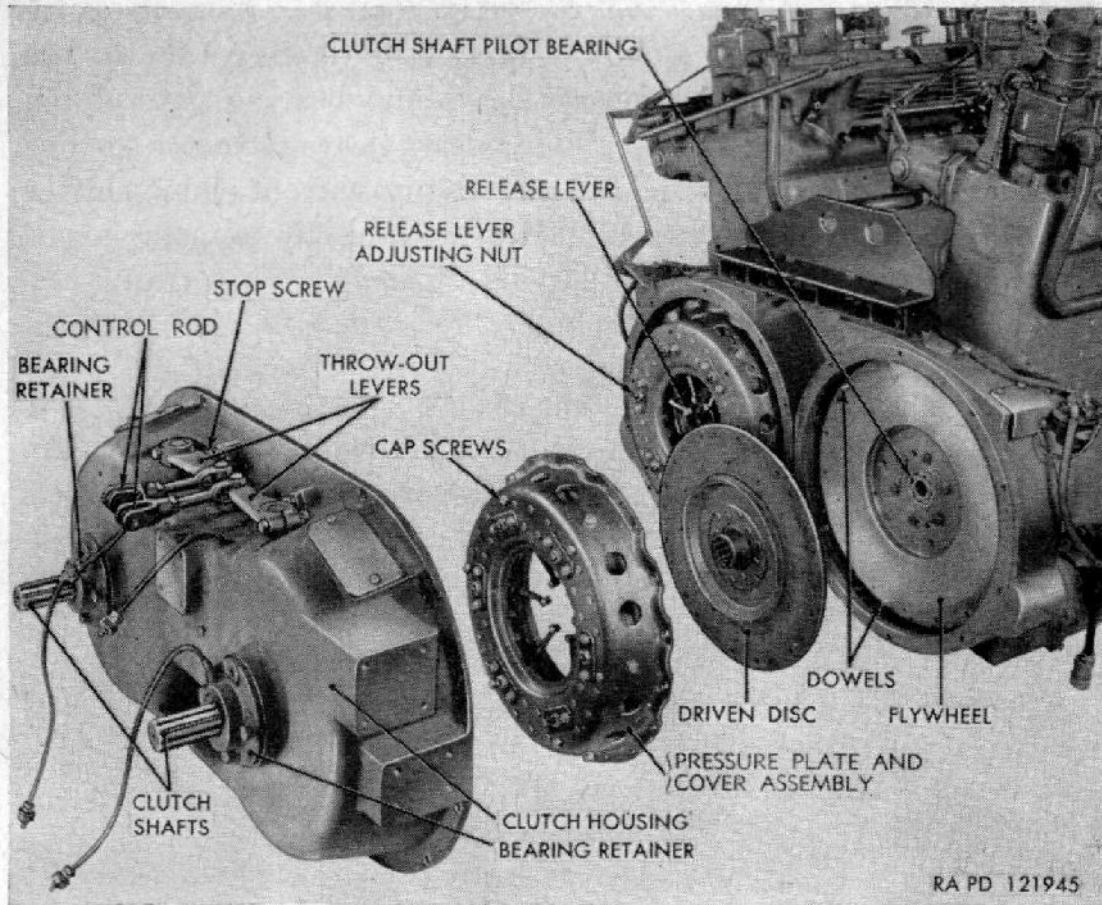
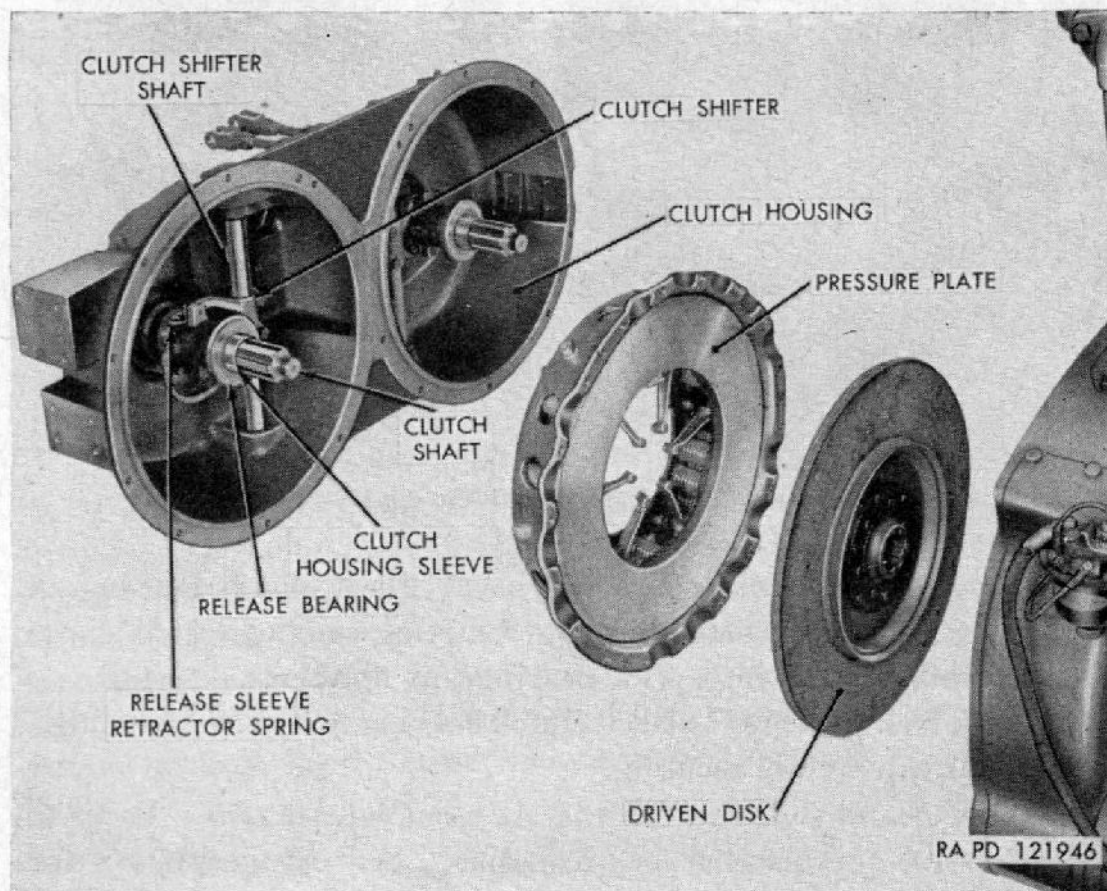
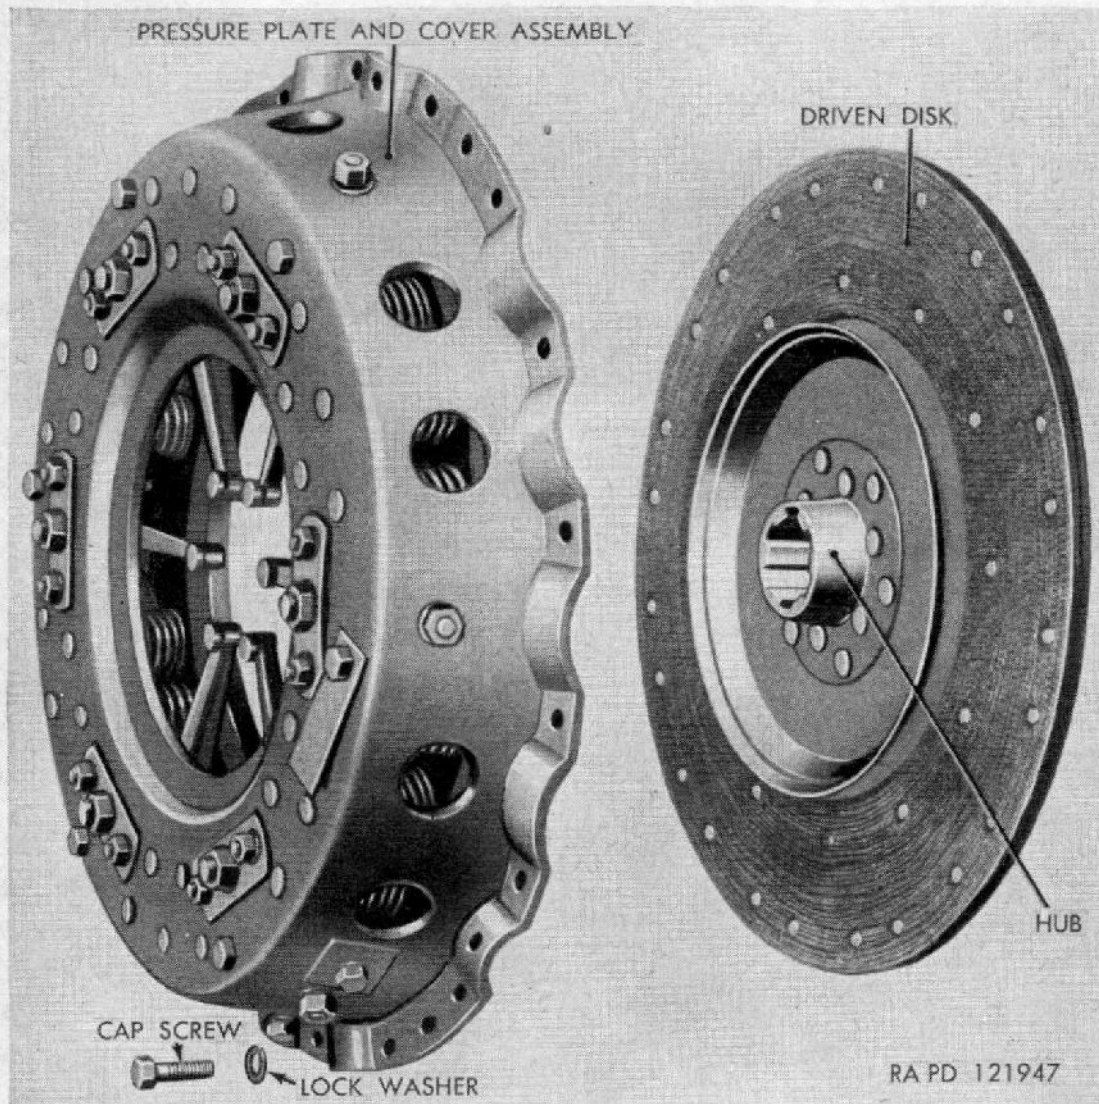

Figure 100. Clutches partially disassembled.
Figure 101. Release bearing and clutch components.
Figure 102. Master clutch assembly.
- (1) *Master clutches.* A single clutch housing supports the front end of the engines and houses both clutch assemblies. The clutches are spring-loaded, dry disk assemblies. Each clutch consists of a driven disk and pressure plate and cover assembly (fig. 101). The driven disk, with friction lining on both sides, is riveted to a splined hub carried on the master
clutch release shifter shafts (fig. 100) are loose (can be rattled). If one is loose, remove yoke pin from adjustable yoke of the loose rod and adjust length of rod so the slack is removed. This will ensure both clutches disengaging and engaging at the same time. Be sure cotter pins are installed and jam nuts tight after rods are adjusted and connected.
c. Remove Clutch Housing and Clutch From Engine (fig. 100). With engines removed from tractor and engines and clutch housing blocked up, remove the cap screws that attach clutch housing to fly-wheel housings, and move clutch housing from engines. Install six $\frac{3}{8}$ x $1\frac{1}{2}$ -inch NC cap screws through holes in clutch cover and screw them into tapped holes until the heads of the cap screws are against the cover. These cap screws are to hold the clutch pressure springs
compressed while the clutch assembly is removed. Then remove the 18 cap screws that attach clutch cover to flywheel, and remove pressure plate and cover assembly. The clutch driven disk will be removed at the same time. Be careful not to lose the three dowels in flywheel when the cover is removed (fig. 100). Inspect all the parts in pressure plate and cover assembly and in the clutch housing to determine if any of those parts are worn or damaged and in need of replacement (fig. 102). Wash grease from flywheel housing, cover assembly, and clutch housing.
d. Install Replacement Clutch Assembly. Insert the three small dowels with snap rings into holes in flywheel (if they were removed), seating the snap rings in recesses in flywheel. Set driven disk against flywheel with the long end of hub toward pressure plate assembly (fig. 102); then place cover plate in position on dowels. Start the 18 cap screws with lock washers that attach clutch cover to flywheel. Aline hub of driven disk with clutch shaft pilot bearing (fig. 100) and tighten cap screws. Remove the six cap screws installed in cover during removal (*c* above).
e. Check Clutch Release Lever Adjustment (fig. 100). Hold a straightedge across the clutch cover and measure from straightedge to face of thrust button on each lever. This distance from outer side of cover plate to thrust buttons should be $1\frac{3}{8}$ inches to ensure proper operation of clutch. Adjust each release lever for this measurement by turning the adjusting nuts clockwise to decrease the distance or counterclockwise to increase the distance. The adjusting nuts are self-locked by friction.
b. Remove Clutch Housing and Release Bearing. Remove the cap screws that attach clutch housing to the flywheel housings and move clutch housing from engines (fig. 100). Remove the bolt from clip on release bearing lubricating tube inside the housing. Unhook ends of release sleeve retractor springs from the end of clutch shifter (fig. 101) and slide springs from the release sleeve. Slide the release sleeve and bearing off clutch shaft then disconnect lubricating tube from sleeve. Press release bearing off sleeve. Discard worn or damaged parts.
c. *Install Release Bearings and Sleeve on Clutch Shaft.* Press release bearing onto release sleeve. Connect lubricating tube to the release sleeve then slide the release sleeve and bearing onto clutch shaft and clutch housing sleeve. Slide release sleeve retractor springs into release sleeve and hook ends of springs into ends of clutch shifter (fig. 101). Install bolt to attach lubricating tube clip to inner side of clutch housing.